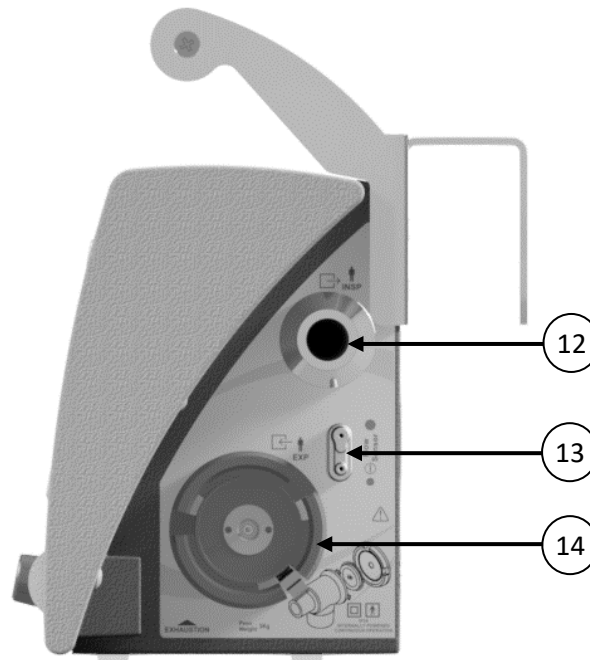

Figure 3: Right side view
**Components of Figure 3**
**Description of the items in Figure 3 and 4**